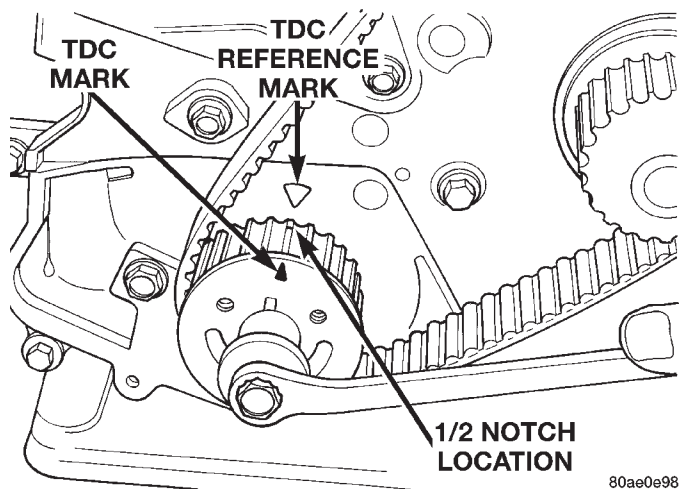

Fig. 55 Adjusting Crankshaft Sprocket for Timing Belt Installation
(3) Rotate crankshaft 1/2 tooth counterclockwise from TDC (Fig. 55).
(4) Install timing belt in this direction. Starting at the crankshaft, go around the water pump sprocket,